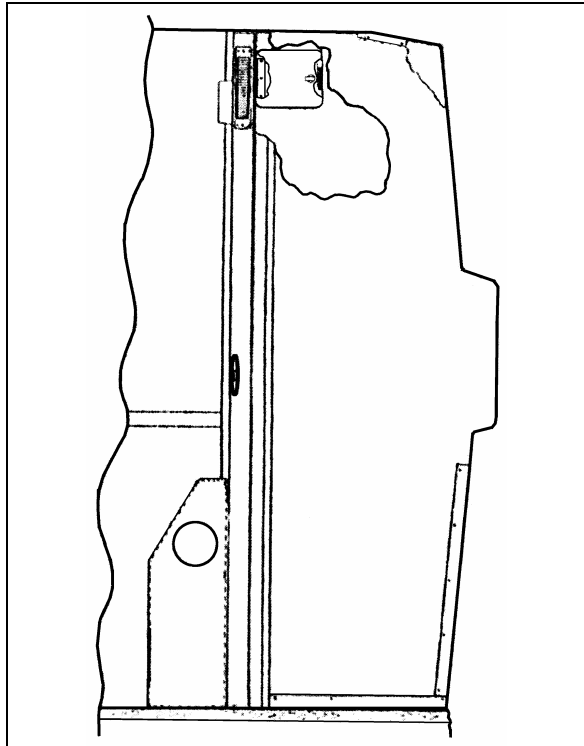
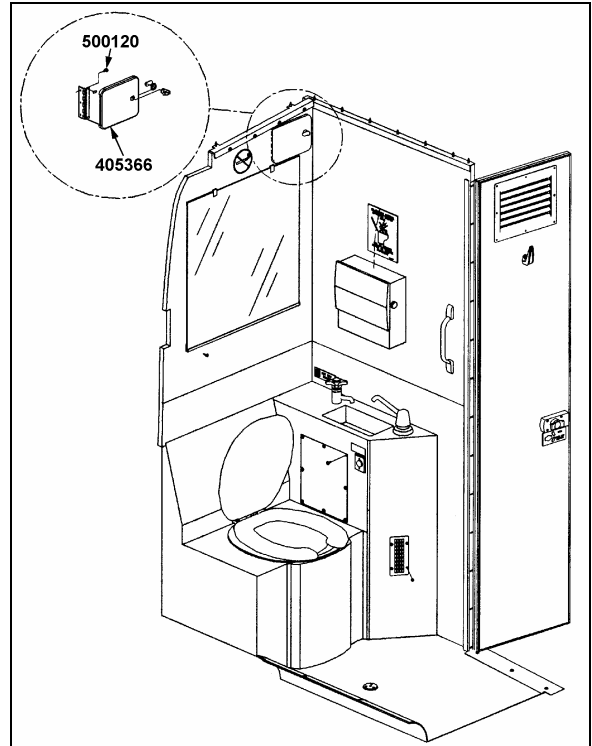

FIGURE 1: INSTALLATION ON H3 COACHES
FIGURE 2: INSTALLATION ON XL2 COACHES
2. Unfasten the screws fixing the cleaning cabinet door frame then remove the door c/w the frame (refer to figure 1 or figure 2).